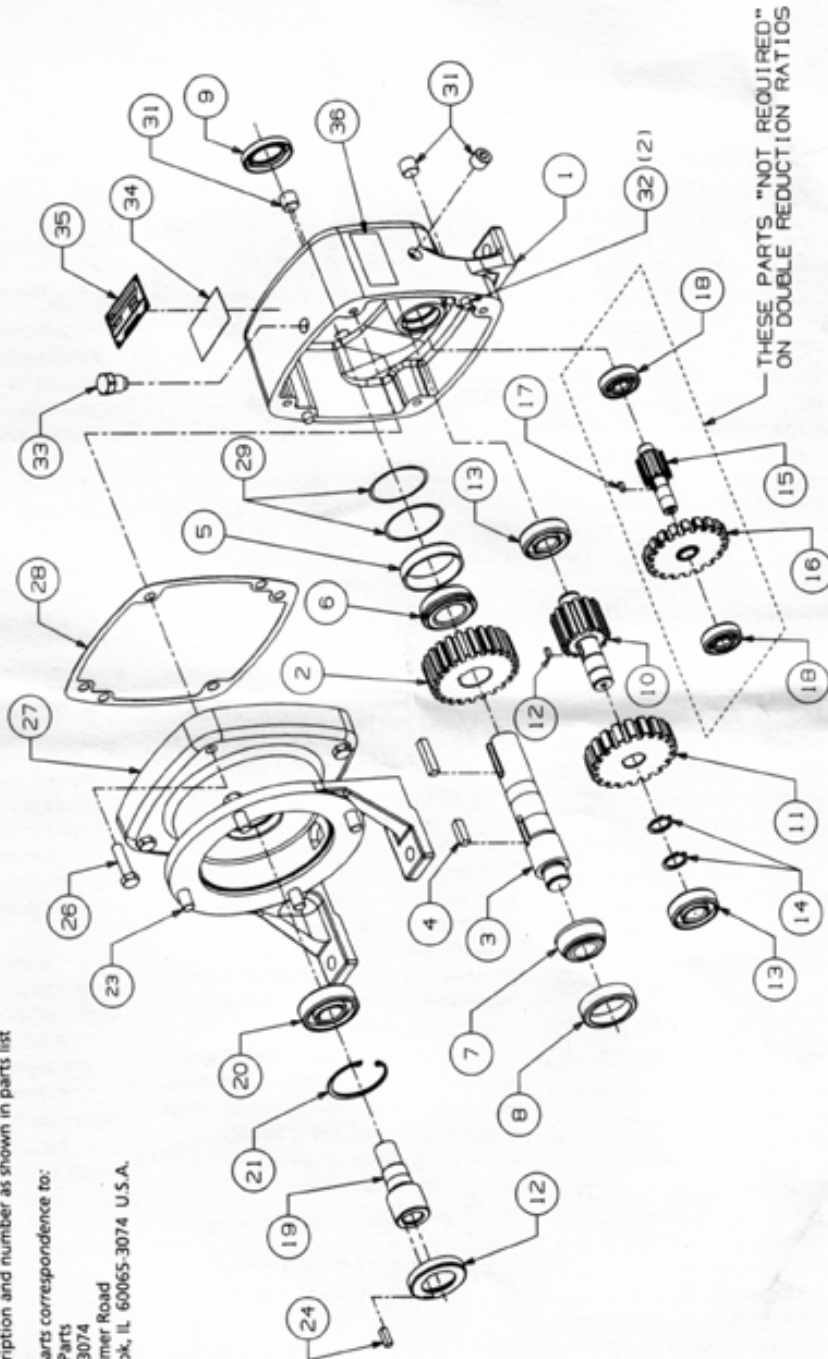

Figure 3 - Repair Parts Illustration
4. Attach motor to speed reducer. (See Figure 3).
- b. Insert short key (B in Figure 3) into
reducer shaft sleeve. Line up keyway in 5/8" diameter motor shaft (A in Figure 3) with keyway in reducer shaft sleeve. Carefully insert motor shaft until C face of motor fits into place against reducer, with four mounting holes in reducer (C in Figure 3) lined up with tapped holes in motor C face.